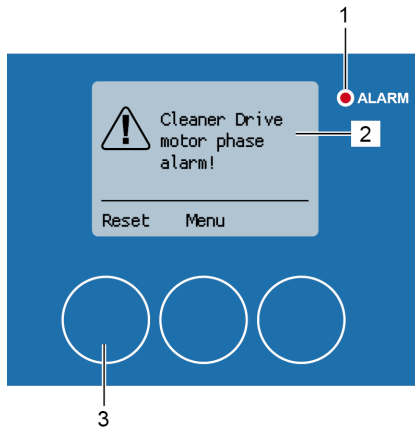

Fig. 194: Motor phase alarm
The alarm message “Cleaner Drive motor phase alarm!” (Fig. 194/2) is displayed during the cleaning process if there is a problem with the connection of stepper motor of the cleaning rail. The red alarm LED (Fig. 194/1) lights up.
2. Reset the alarm message with [Reset] (Fig. 194/3).